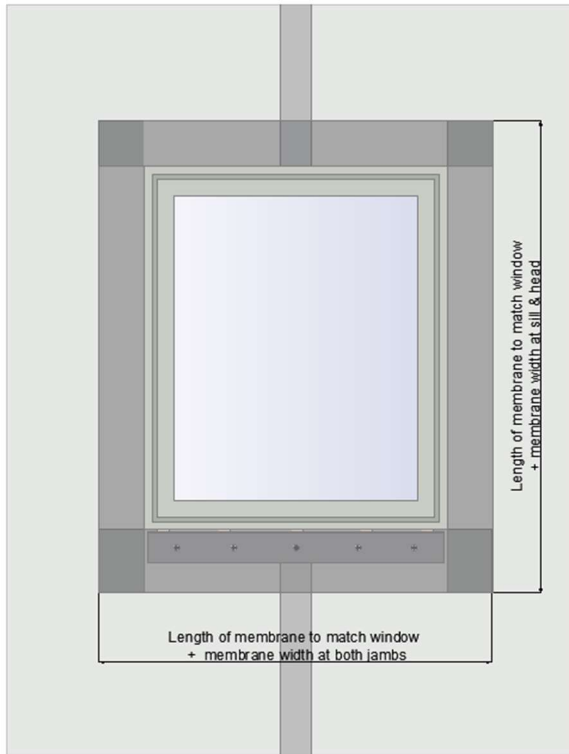
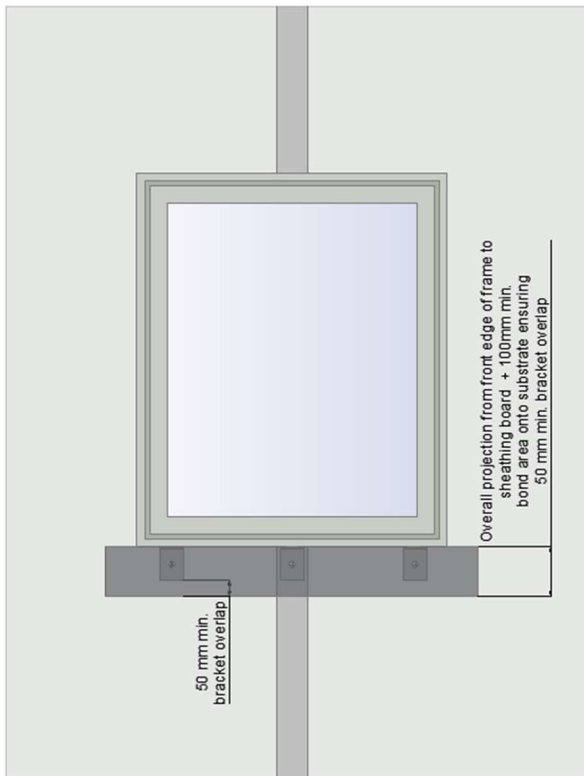

Figure 3.
Figure 5.
- The lengths of the membrane shall match the window frame + the width of the bonded membrane to the substrate on both sides. (Figure 3).
- If single angle brackets are being used in lieu of a continuous bracket as shown in Figures 3 & 4, as long as there is a minimum of 100 mm bond area between brackets, the bracket overlap can be reduced to 50 mm. (Figure 5).